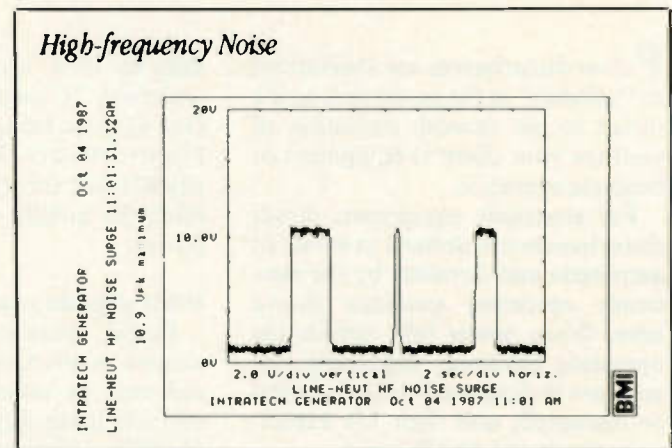

Figure 6.
5. High frequency noise may be caused by arcing motors or radio transmitters. See Figure 6.